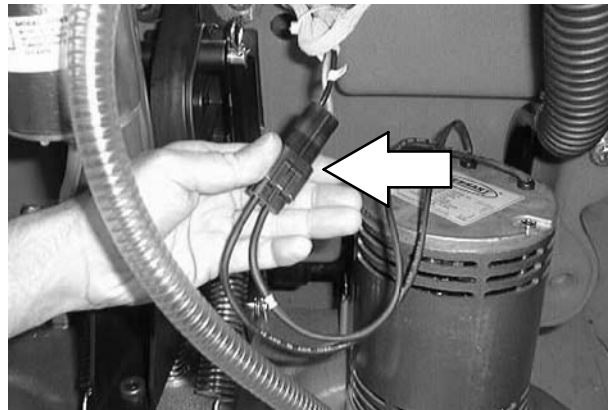

FIG. 2
2. Disconnect the wire harness from the old scrub motors. Refer to FIG. 2.